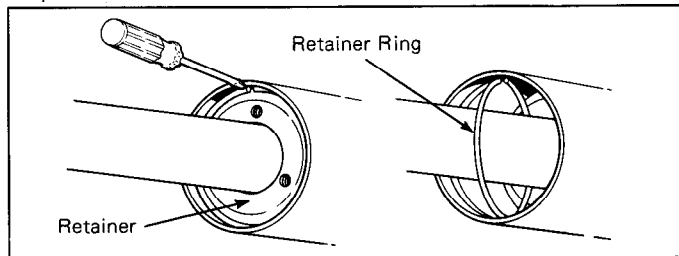

Figure 8. Removing the Retainer Ring
- Remove the retainer ring by placing a screwdriver on one side of the ring near the split. See Figure 8. Tap the screwdriver gently with a hammer. The retainer ring should compress at the split and turn sideways. Grasp the ring and pull it out.